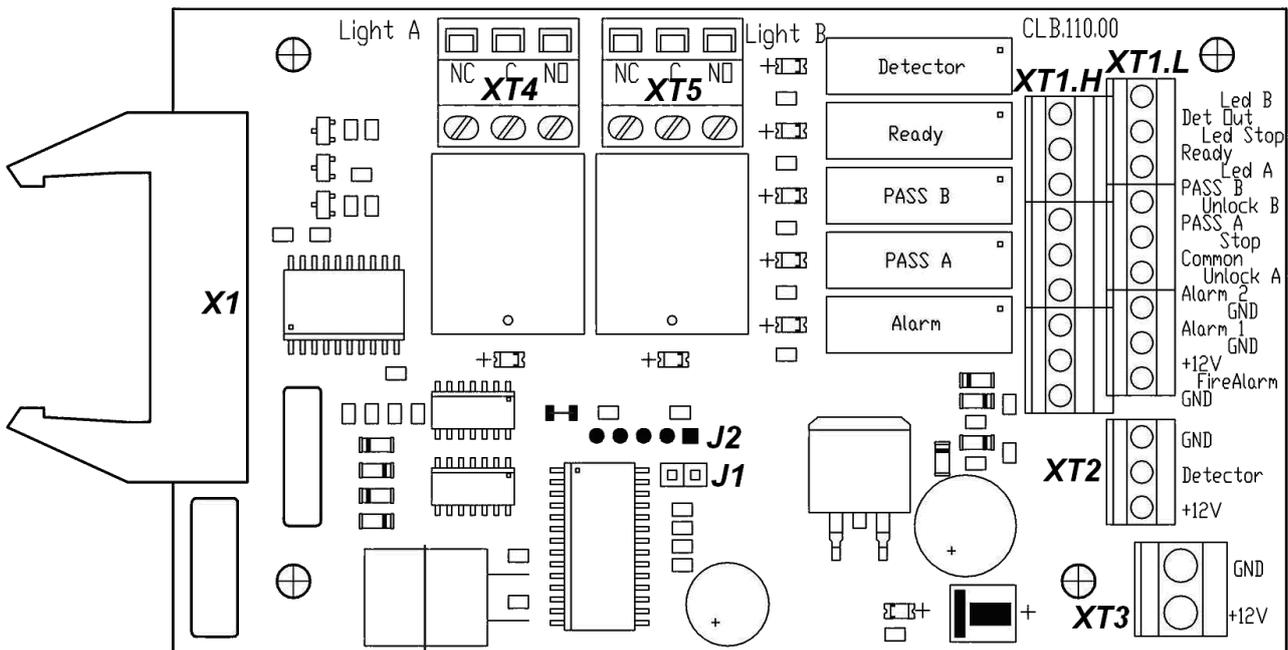
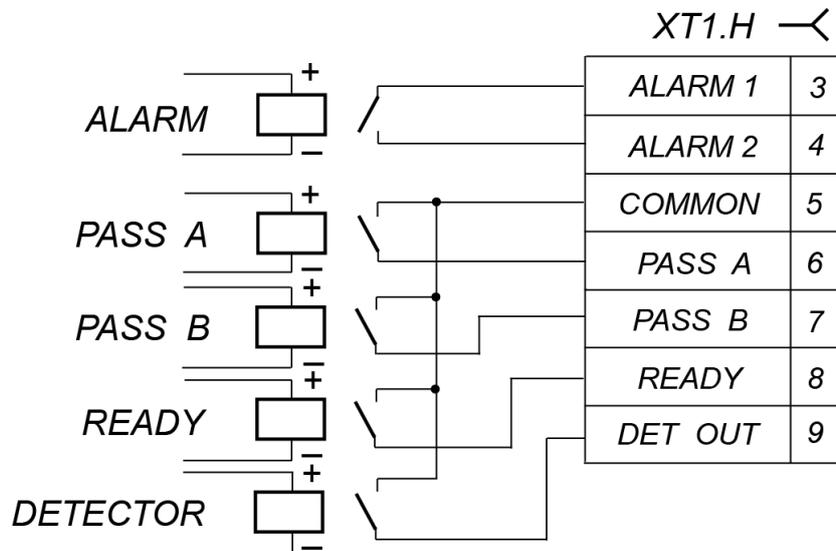
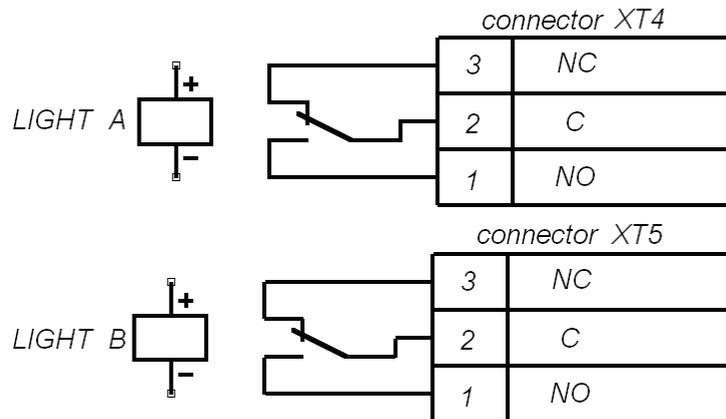

Figure 5. Control Logic Board (CLB)
Figure 8. Output cascades for *PASS A*, *PASS B*, *Ready*, *Det Out* and *Alarm*
Figure 9. Output cascades for Light A and Light B
The RC panel is connected to the CLB with a multicore cable (11) via the **XT1.L** connector block (See Fig. 5 and Fig. 12).
If the turnstile orientation relatively to the operator’s terminal is not standard (e.g. the terminal is placed at the backside of the turnstile housing), the RC panel orientation towards the turnstile can be changed by exchanging places of the RC wires to the contacts *Unlock A* and *Unlock B* as well as contacts *Led A* and *Led B* accordingly (see Fig. 5 and Fig. 12).
The CLB (Fig. 5) contains:
Connection of the devices is made with the cable (11) to the corresponding connector blocks **XT1.L** or **XT1.H** of the CLB in accordance with the connection layout (Fig. 5 and Fig. 12).
Pin assignments of the CLB connector blocks are given in Fig.5 and on a label located on the inner surface of turnstile cover (2) with LED indication display.
(contacts *Alarm 1* and *Alarm 2*) have normally open contacts. The *Common* contact, at that, is not connected to the CLB power supply negative terminal. In the initial (inactive) state, when the power is on, the relay contacts *PASS A*, *PASS B*, *Ready* and *Detector* are closed (voltage is supplied to the relay coil) and the *Alarm* relay contacts are broken (voltage is not supplied to the relay coil). The CLB relay operation / release is indicated by lighting up/going down of the red test indicators located near the corresponding relays (Fig. 5). The output cascades for *PASS A*, *PASS B*, *Ready*, *Det Out* and *Alarm* are the contacts with the following signal characteristics (Fig. 8):
The control mode is set by the jumper on the **J1** connector (the **J1** connector location is shown on Fig.5 and on a label located on the inner surface of turnstile cover (2): the jumper is fixed — the pulse control mode, the jumper is not fixed – the potential control mode. The jumper is fixed at the factory before the delivery.
The intrusion detector is connected to the **XT2** connector block, and the siren is connected to the **XT1.H** connector block of the CLB according to the connection layout (Fig.5 and 12). There should be normally closed contacts on the intrusion detector.
The intrusion detector status signal is constantly transmitted to the *Det Out* and *Common* contacts of the CLB **XT1.H** connector block (Fig. 5).
The emergency unblocking device is connected to the **XT1.L** connector block of the CLB in accordance with the connection layout (Fig. 5 and 12). If the *Fire Alarm* input is not used, it is necessary to set a jumper between the contacts *Fire Alarm* and *GND*. This jumper is preset at the factory.
arrow” pictogram on the LED indication display, corresponding to the set passage direction, lights, and it is passive, when the “Green arrow” pictogram on the Led display does not light. The response/release of the relays **Light A** and **Light B** can be defined according to lighting up/going down of the red indicators, which are installed near the above mentioned relays (Fig. 5). Output cascades for the **Light A** and **the Light B** relays are nonbridging relay contacts (Fig. 9) with the following signal characteristics: